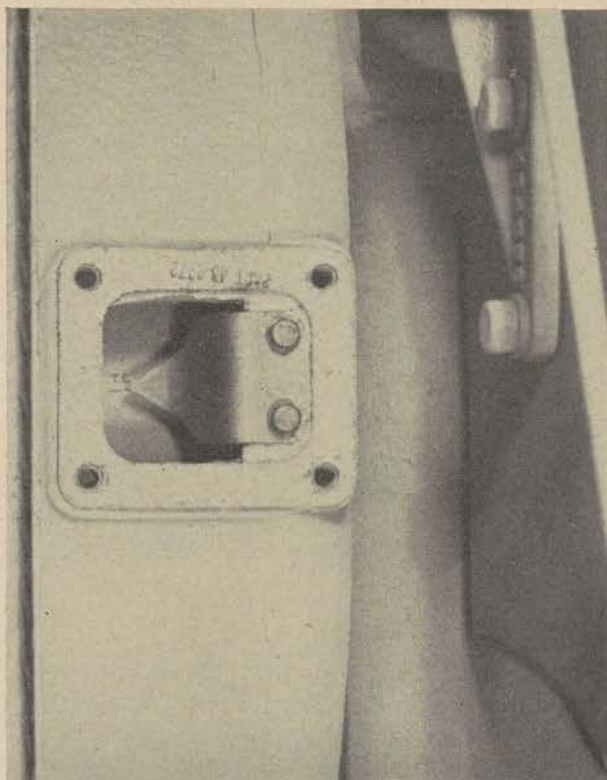

Figure 177. Timing mark.
2. Continue to rotate the crankshaft until the top center timing mark on the flywheel, corresponding to the cylinder number of the lifter to be checked, coincides with the pointer at the top of the flywheel bell housing. (See fig. 177.)